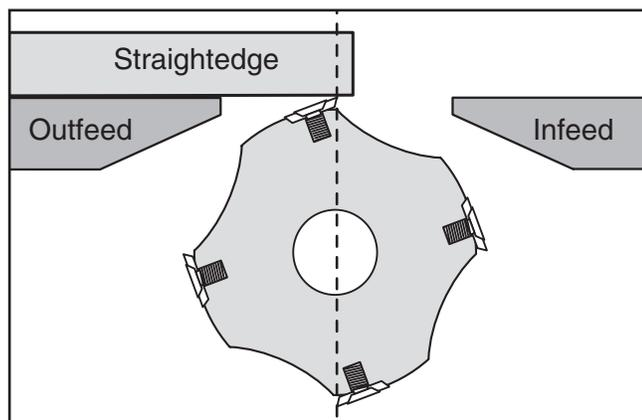

Figure 8. Cutterhead insert at top-dead-center.
8. Place a straightedge on outfeed table so it extends over cutterhead, and rotate cutterhead pulley until one of the carbide inserts is at top-dead-center (TDC), as shown in **Figure 8**.
When correctly set, carbide insert will just touch straightedge when insert is at its highest point of rotation (see **Figure 8**).